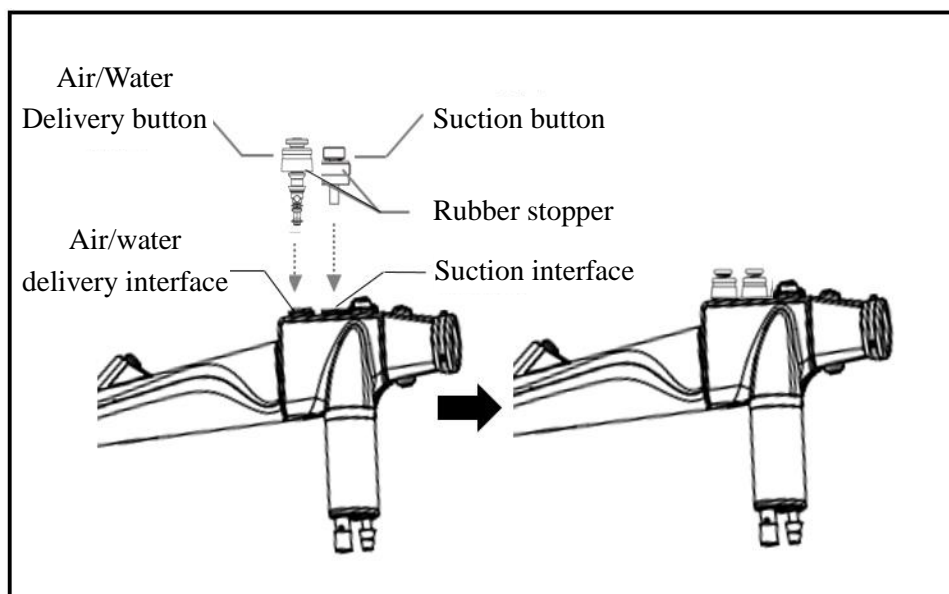

Figure 3.24
1. Install the Air/Water Delivery button on the air/water delivery interface of the endoscope (as shown in Figure 3.24).